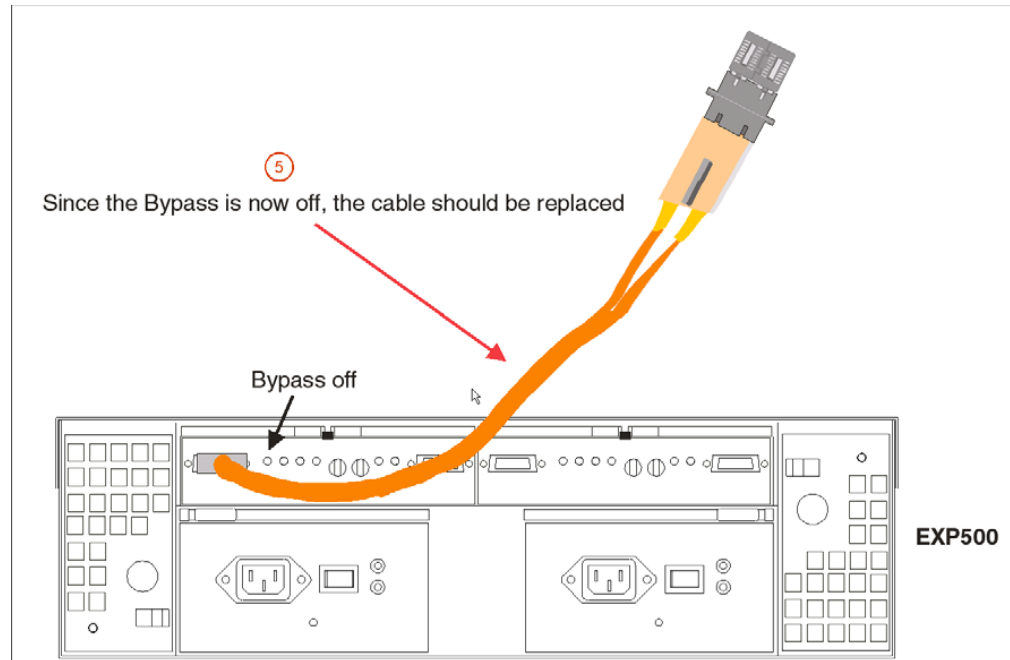

Figure 159. Insert wrap plug into element
5. As was shown in step 4, insert the wrap plug into the element from which the cable was removed in step 3. See Figure 159 on page 327.